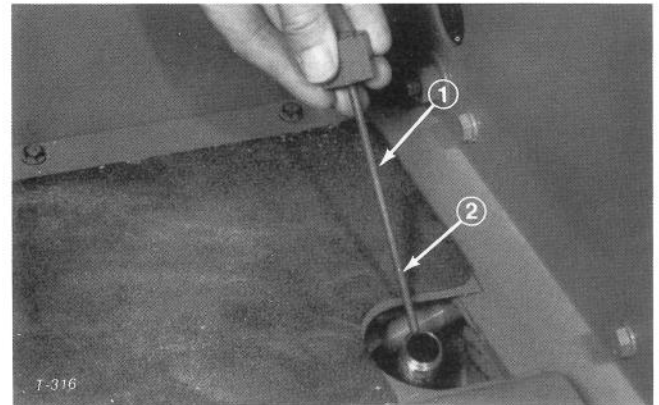

Figure 64
7. Remove dipstick from axle filler tube and fill axle to proper level (Fig. 64). Reinstall the dipstick.